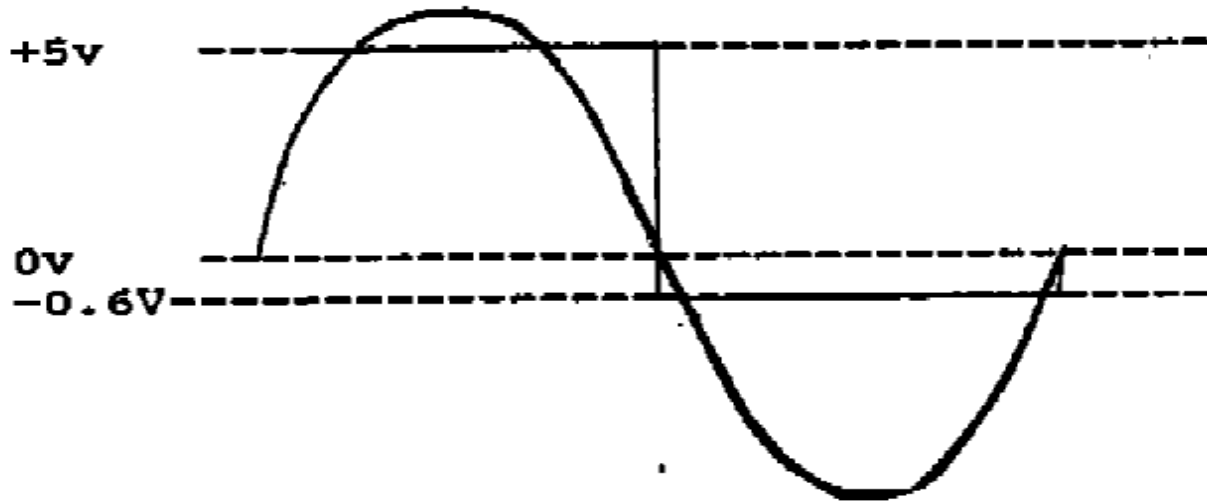

Figure 8
1. Observe figure8 on TP5, adjust R1 such that TP5 and AC HOT switch at the same point.